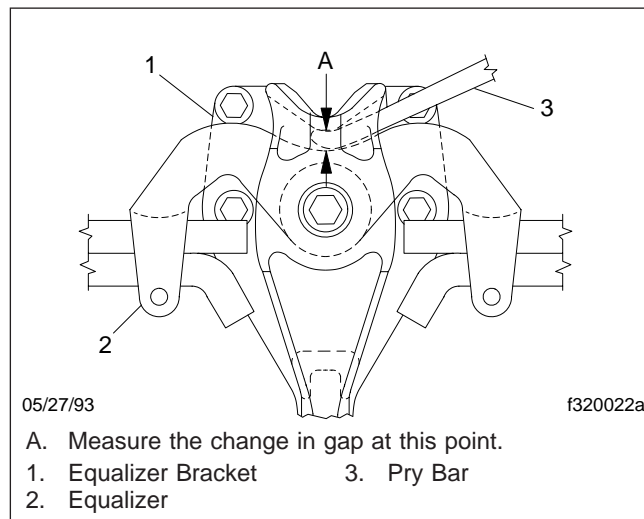

Fig. 3, Side View of the Equalizer
6. Block up the frame enough to take chassis weight off the springs. Attempt to move the equalizer up and down, using a pry bar between the top of the equalizer and top of the equalizer bracket; apply hand pressure only. See **Fig. 3**. If movement at the center of the equalizer exceeds 1/8 inch (3 mm), replace the equalizer bushings. See **Group 32** of the *Heavy-Duty Trucks Service Manual* for instructions.